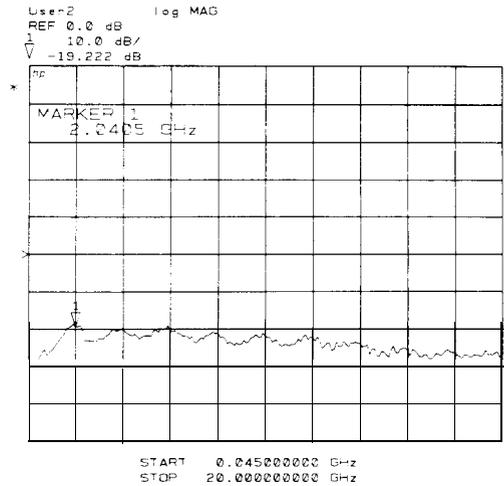
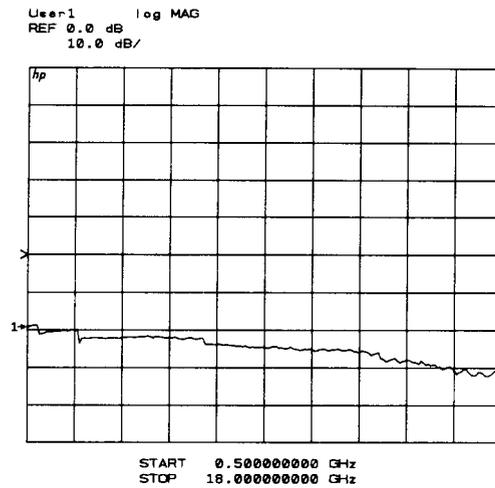

Figure 3-3. Typical Operator's Check CRT Power Level Trace
Figure 3-4. Typical Operator's Check CRT Power Level Trace
Plug in and turn on the test set (it should not be connected to any other instrument or device now). The line LED should light immediately and the active LED should light in about two seconds. Those indications mean that the instrument has passed its self-test. Turn off the test set and connect it to the HP8510 system as shown in Figure 3-3. Turn on all of the system instruments, network analyzer last. Let the instruments complete their self-tests.
- b. **HP 8350B** systems: press **[SWEEP TIME] [2] [0] [0] [k/m]** to set the sweep time to 200 ms. In narrow band systems, the level of the frequency band generated should match the levels shown in Figure 3-3 for a given frequency.
The b₁ and b₂ traces should resemble Figure 3-3. The a₁ and a₂ traces should resemble Figure 3-4.
5. Press PARAMETER [MENU] [USER 4 b1] [REDEFINE PARAMETER] [DRIVE] [PORT 2] [PHASELOCK] [a2] [REDEFINE DONE] to observe the b1 thru power level trace. The trace should resemble Figure 3-4.
6. Leave the thru connection of step 4 connected. Press PARAMETER [MENU] [USER 2 b₂] [REDEFINE PARAMETER] [DRIVE] [PORT 1] [PHASELOCK] [a1] [REDEFINE DONE] to observe the b2 power level trace. The trace should resemble Figure 3-4.
3. Press [USER 4 b1] to observe the b1 power level trace. The trace should resemble Figure 3-3.
5. Press PARAMETER [MENU] [USER 2 b2] [REDEFINE PARAMETER] [DRIVE] [PORT 1] [PHASELOCK] [a1] [REDEFINE DONE] to observe the b2 power level trace. The trace should resemble Figure 3-4.